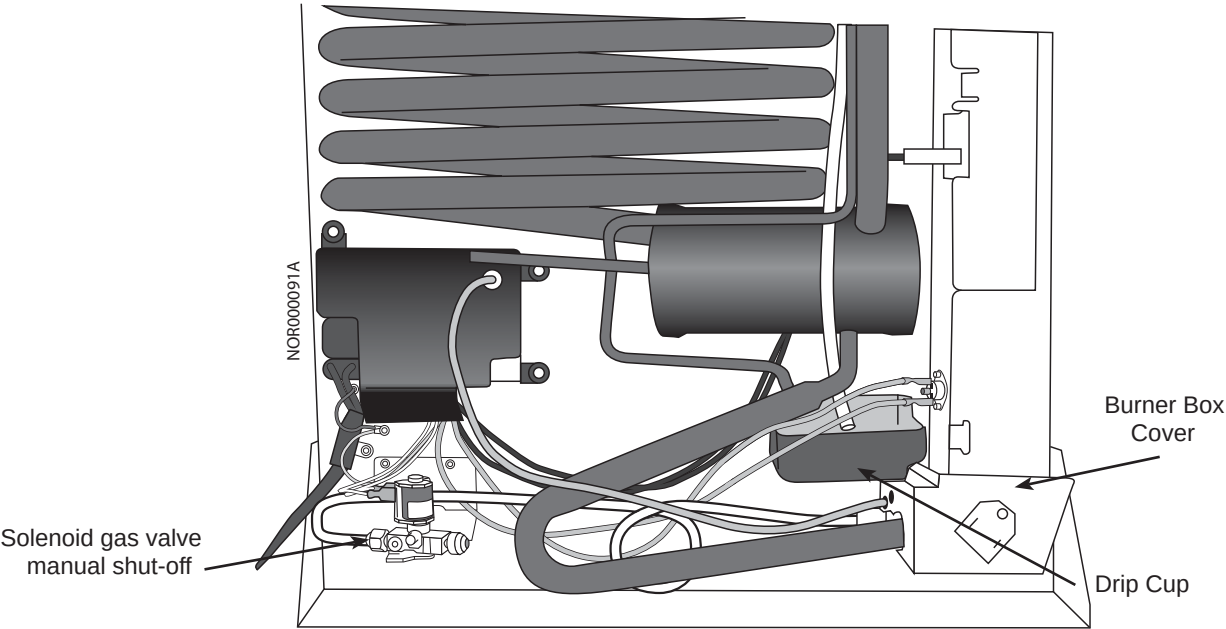

Fig. 16 - Drip Cup and Burner Box Cover
Step 3 through Step 5, refer to Fig. 16.